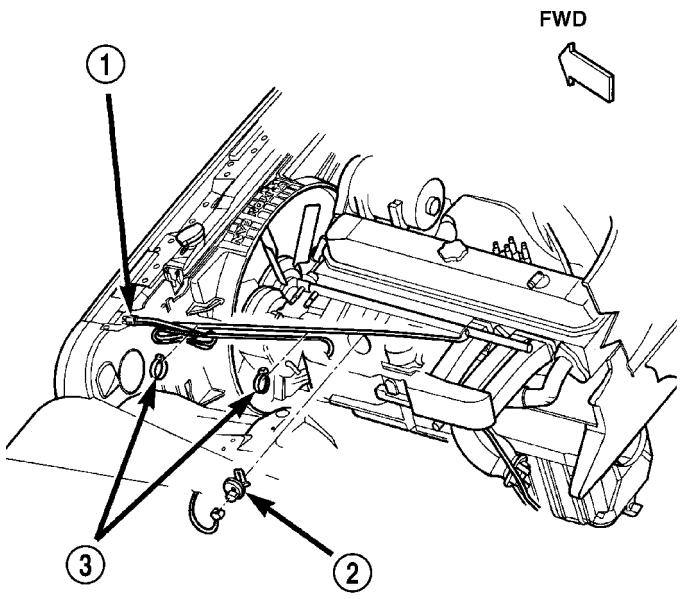

Fig. 4 Block Heater and Cord - 4.0L Engine
- (1) Drain coolant (Refer to 7 - COOLING - STANDARD PROCEDURE).
- (2) Unplug power cord from block heater.
- (3) Loosen screw in center of block heater (Fig. 4).
- (4) Remove block heater from cylinder block.
- (1) Thoroughly clean the engine core hole and the block heater seat.
(2) Insert block heater assembly into core hole with element loop pointing Up (Fig. 4).
(3) Seat block heater flush against block face. Tighten mounting screw to 4 N·m (31 in. lbs.) torque.
(4) Fill cooling system (Refer to 7 - COOLING - STANDARD PROCEDURE), and inspect for leaks (Refer to 7 - COOLING - DIAGNOSIS AND TESTING).
(5) Plug power cord into block heater. Route cord away from moving parts, linkages and exhaust system components. Secure cord in place with tie-straps.